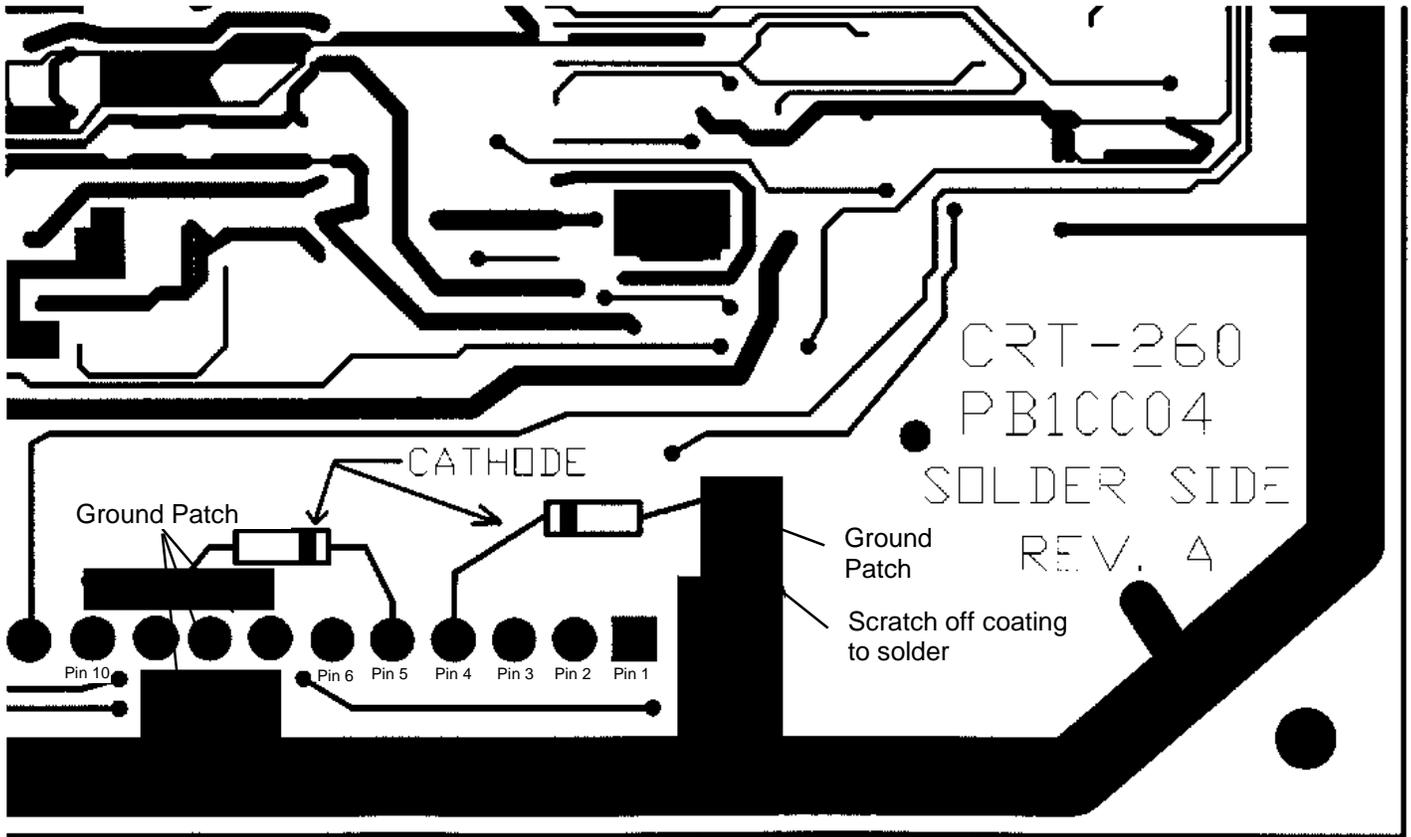

Figure 1 - Diagram for Attaching Suppressor Diodes to the CRT-260 Board
4. Following the diagram in Figure 1, solder the cathode end of the supplied voltage-suppression diodes, to Pin 4 and Pin 5 of J3, **on the solder side of the CPU board.**
5. Solder the other end (anode end), of the diode attached to Pin 4, to the ground patch to the right of Pin 1. You may want to scratch off some of the green coating covering the ground patch, to make a better connection. Solder the anode end of the Pin 5 diode to the ground patch(es) to the left of Pin 6 or to Pins 7, 8 or 9. Ground patches and pins can be seen in Figures 1 and 3.